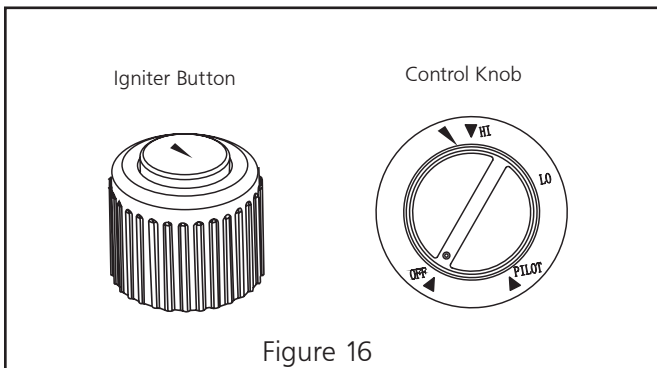

Figure 16
3. Push in gas control knob and slightly turn clockwise ↻ to the OFF position (see figure 16).